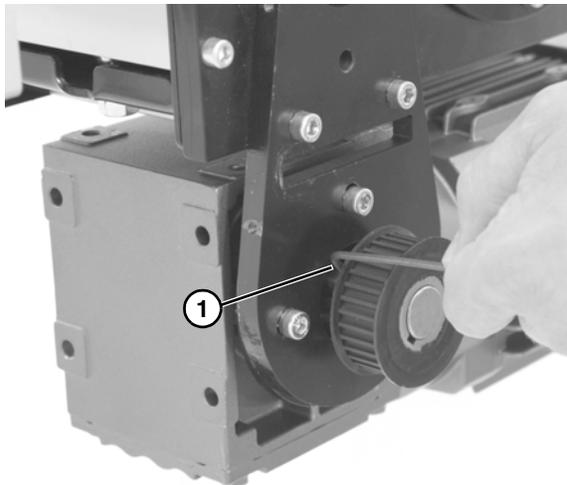

Figure 25
4. Loosen set screws and remove drive pulley (**Figure 25, item 1**).